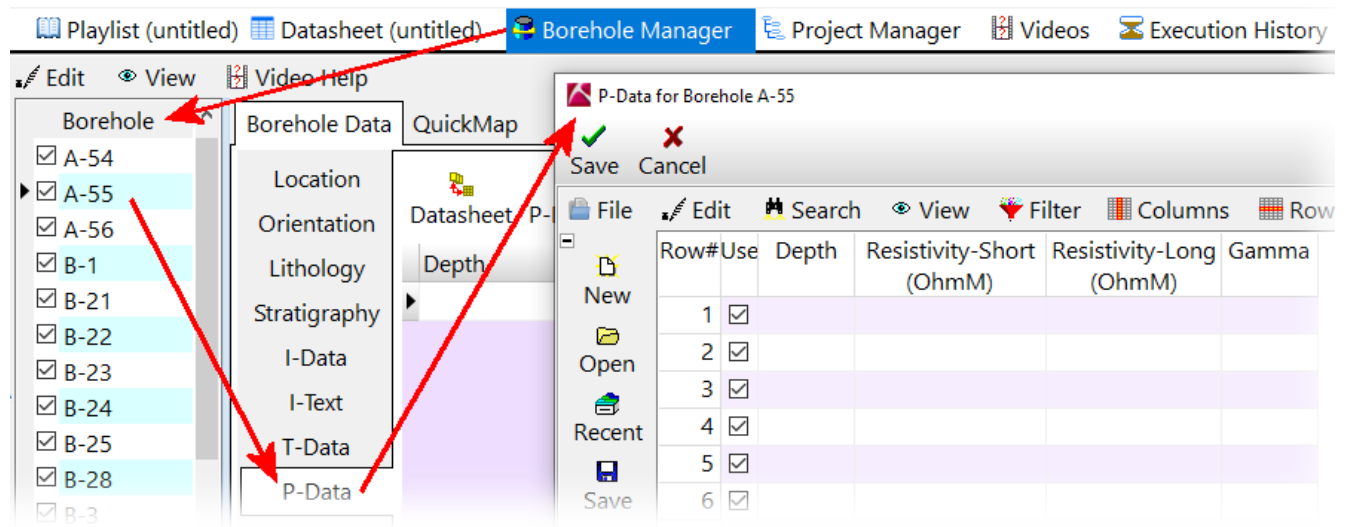

Figure 7
- Within the RockWorks Borehole Manager, open the P-Data tab for the well that the data will be copied into and select the Datasheet option (Figure 7).